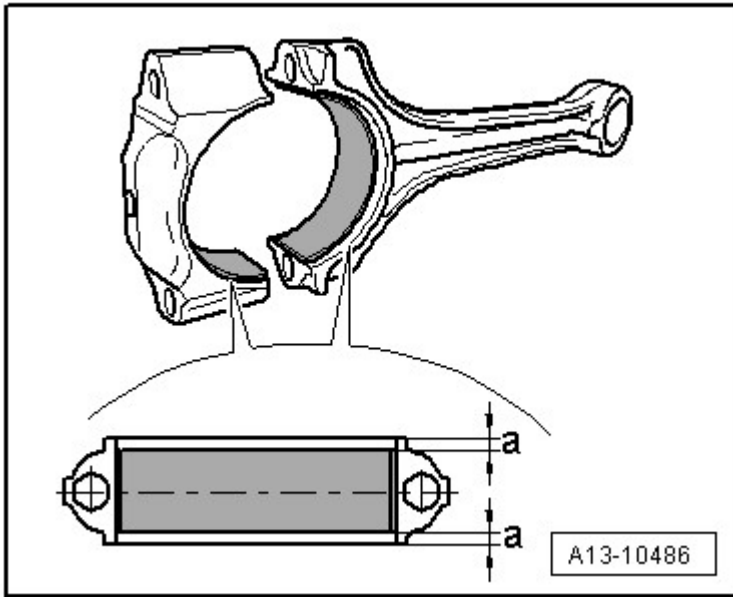

Fig. 14: Identifying Dimension -A- (Must Be Same At Left And Right)
- Installed location, refer to **Fig. 14**